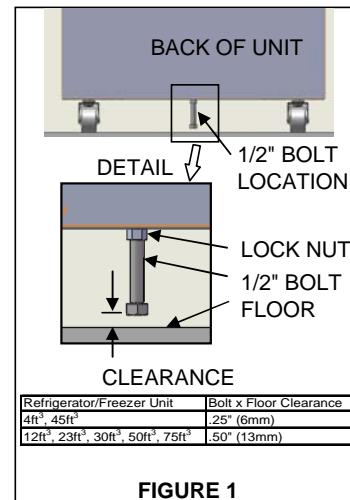

FIGURE 1
- Unscrew 1/2" bolt until there is the required clearance between floor and head of bolt as shown in Figure 1